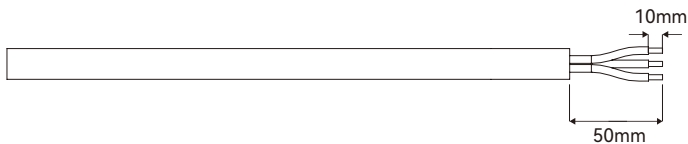

Figure 5-6
- ② According to the figure 5-6, select an appropriate cable, peel the insulation sleeve of AC cable off for 50mm, and peel off the end of L / N / PE wires for 10mm.